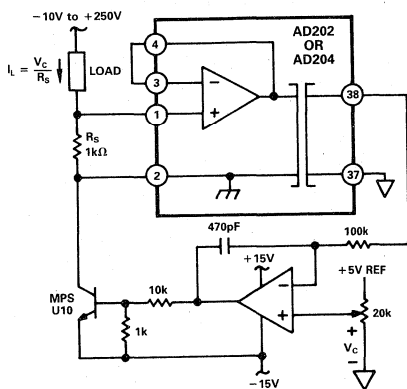

Figure 20. High-Compliance Current Source
**High-Compliance Current Source.** In Figure 20, an isolator is used to sense the voltage across current-sensing resistor R to allow direct feedback control of a high-voltage transistor or FET used as a high-compliance current source. Since the isolator has virtually no response to dc common-mode voltage, the closed-loop current source has a static output resistance greater than  $10^{14}\Omega$  even for output currents of several mA. The output current capability of the circuit is limited only by power dissipation in the source transistor.